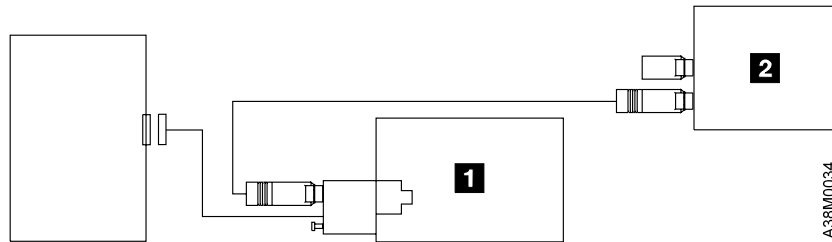
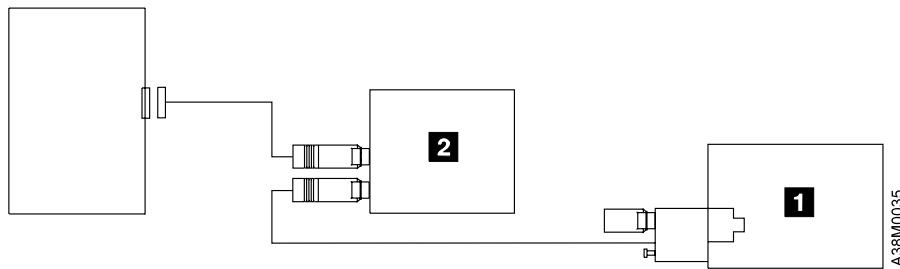

Figure 6. Example of Attaching Multiple Devices, with the Single Connector Device as the First Device in the Sequence of External Devices
Figure 7. Example of Attaching Multiple Devices, with the Dual Connector Device as the First Device in the Sequence of External Devices
1. A SCSI device can have one (single) or two (dual) connectors on the back of the device. Figure 6 on page 10 shows a single-connector device **1** connecting to a dual-connector device **2**. Figure 7 on page 10 shows a dual-connector device **2** connecting to a single-connector device **1**.